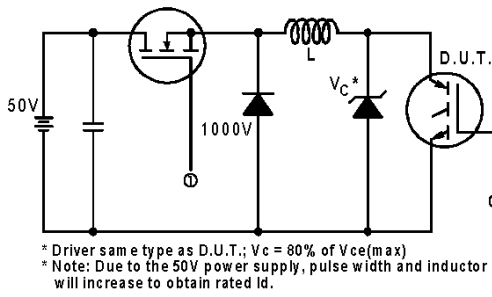

Fig. 13a - Clamped Inductive Load Test Circuit
- ② V_{CC} = 80%(V_{CES}), V_{GE} = 20V, L = 10μH, R_G = 23Ω, (See fig. 13a)
- ③ Repetitive rating; pulse width limited by maximum junction temperature.
- ④ Pulse width ≤ 80μs; duty factor ≤ 0.1%.
- ⑤ Pulse width 5.0μs, single shot.